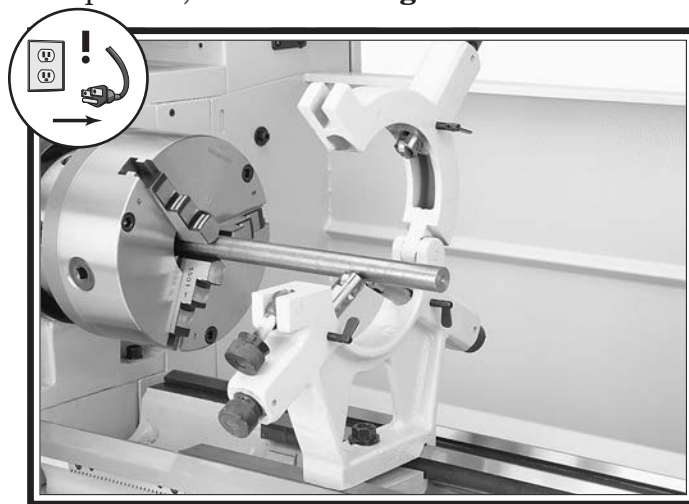

Figure 54. Workpiece mounted in the steady rest.
4. Loosen the clamp knob that secures the two halves of the steady rest and open the top portion, as shown in **Figure 54**.
6. Use the finger adjustment knobs to position the bottom two finger rollers against the workpiece, as shown in the example of **Figure 54**.